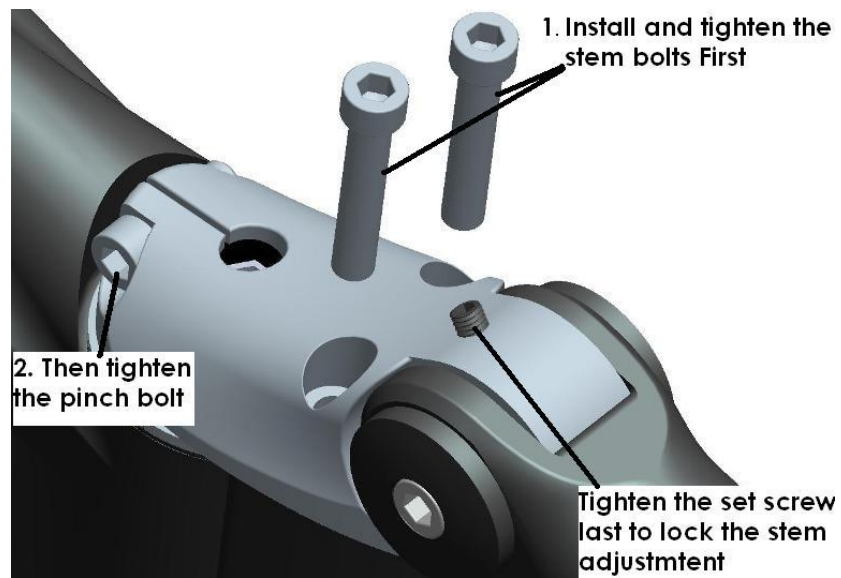

Fig. 9
- Tighten the bolt to 12Nm with a torque wrench. See Fig.9
Step 10) Tighten the M6 x 18mm pinch bolt in the Bayonet II Stem. See Fig.9
Step 11) Insert the Set Screw into the back of the Bayonet II Stem. This will lock the stem angle adjustment. See Fig.9